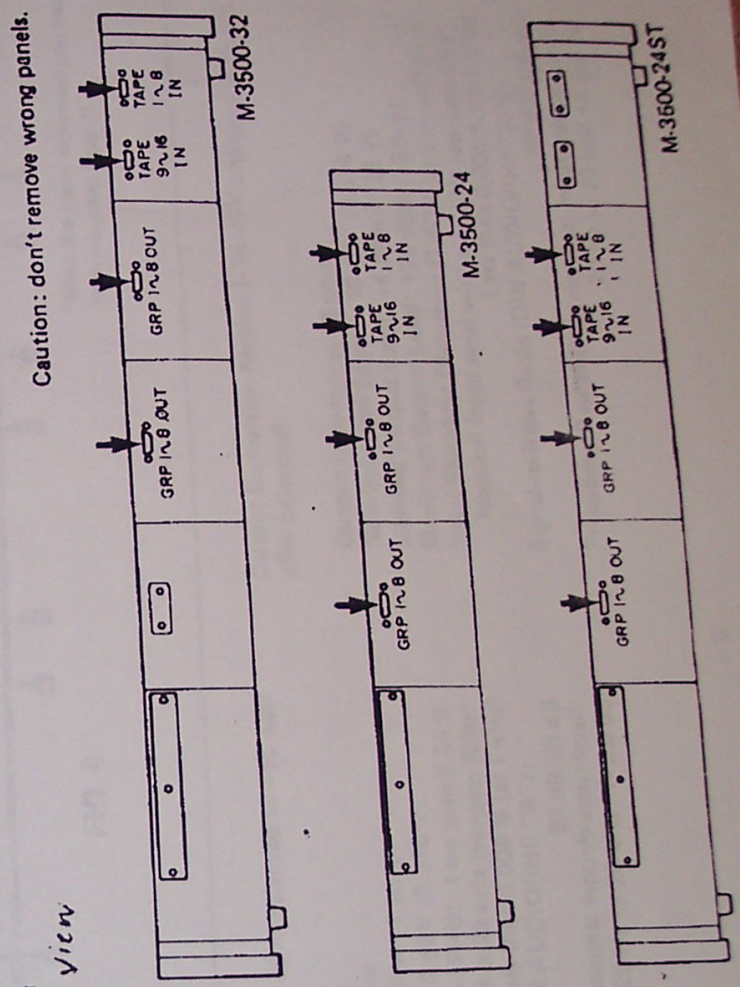

FIG. 6
4. Remove the four small blank panels from the console's rear panel as shown in Figure 6.